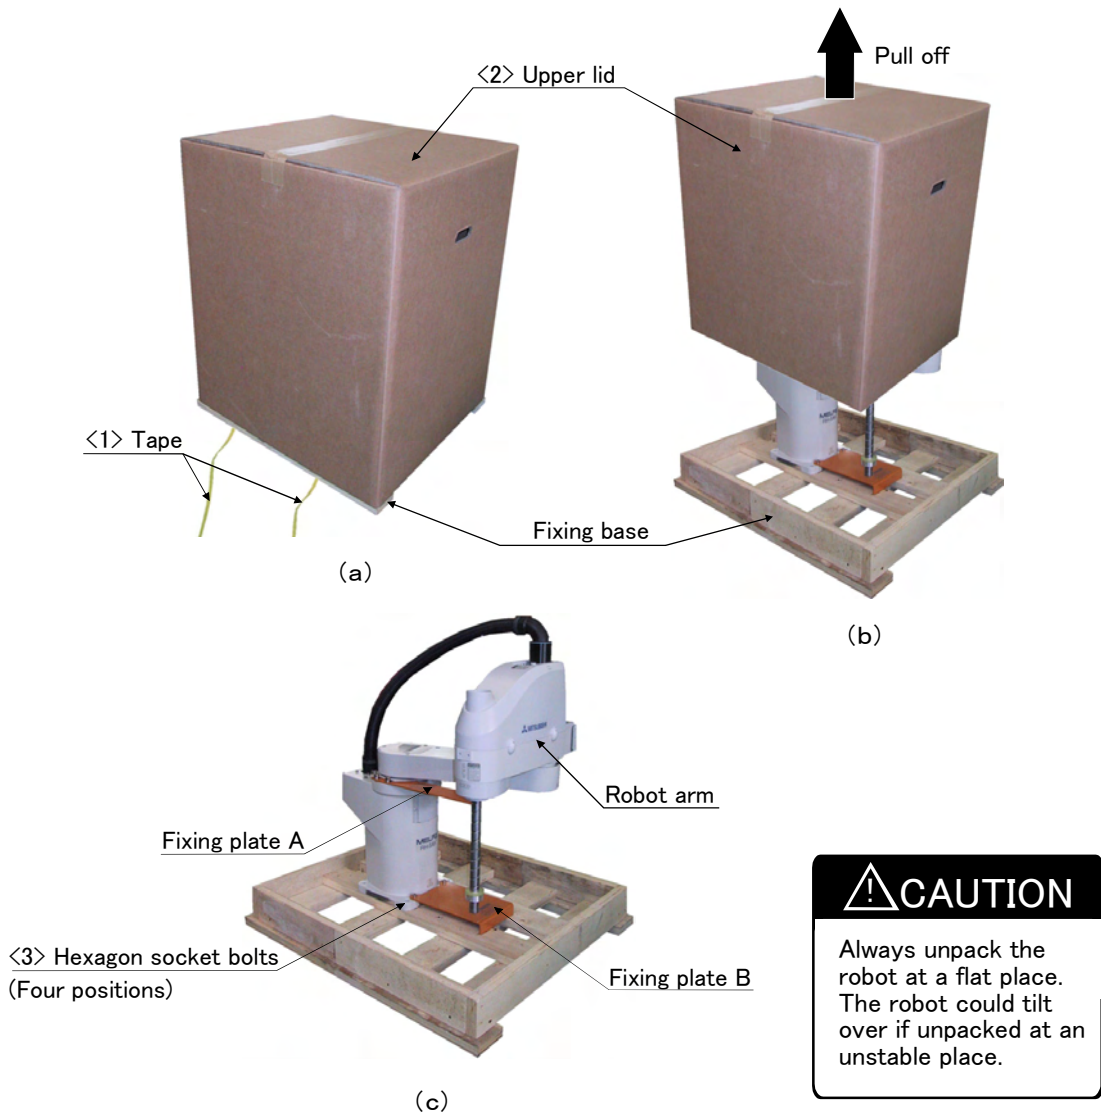

Fig.2-1 : Unpacking the robot arm
The robot is shipped from the factory in cardboard and plywood frame packing. Always refer to Fig. 2-1 and unpack the robot. Be sure to transport the RH-6SH series according to "2.2.2Transportation procedures(Transportation by people: RH-6SH series)", and transport the RH-12SH/18SH series according to "2.2.3Transportation procedures(Transporting with a crane: RH-12SH/18SH series)".
- 1) Using a knife, etc., slit the tape <1> fixing the upper lid <2> of the cardboard box. (Fig. 2-1 (a))
- 2) Pull the upper lid <2> of the cardboard box off with both hands. (Fig. 2-1 (b))
- 3) Remove the hexagon socket bolts <3> (four positions) connecting the sleeper and the base unit. (Fig. 2-1 (c))